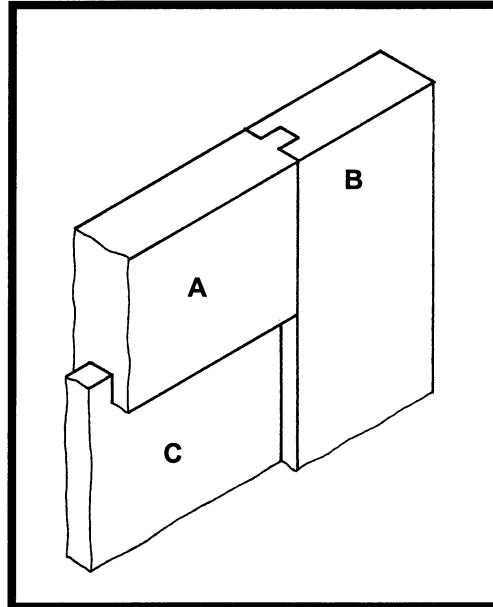

Figure 4.4
- 4.4 **Figure 4.4** shows a partial rail (A), stile (B) and panel (C) of a panelled door which is joined together by a haunched mortice and tenon joint with a groove. The measurements for A and B are 21 mm thick x 60 mm wide.